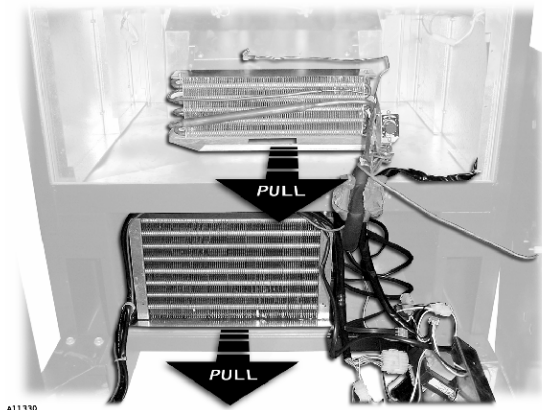

FIGURE 15. REMOVE THE REFRIGERATION UNIT
5. Grip the front lip of the condenser base and the evaporator base and pull out at the same time. See Figure 15.